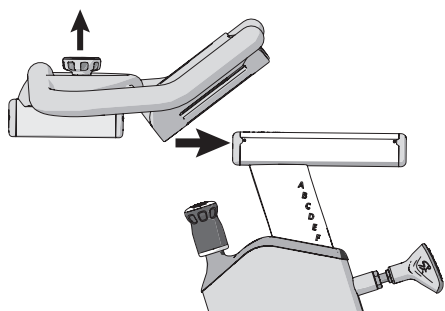

Figure 9
- 1. Slide the handlebar assembly onto the handlebar post (Figure 9) by loosening the fore/aft handlebar knob and pulling it up to align with the grooves on the handlebar post.